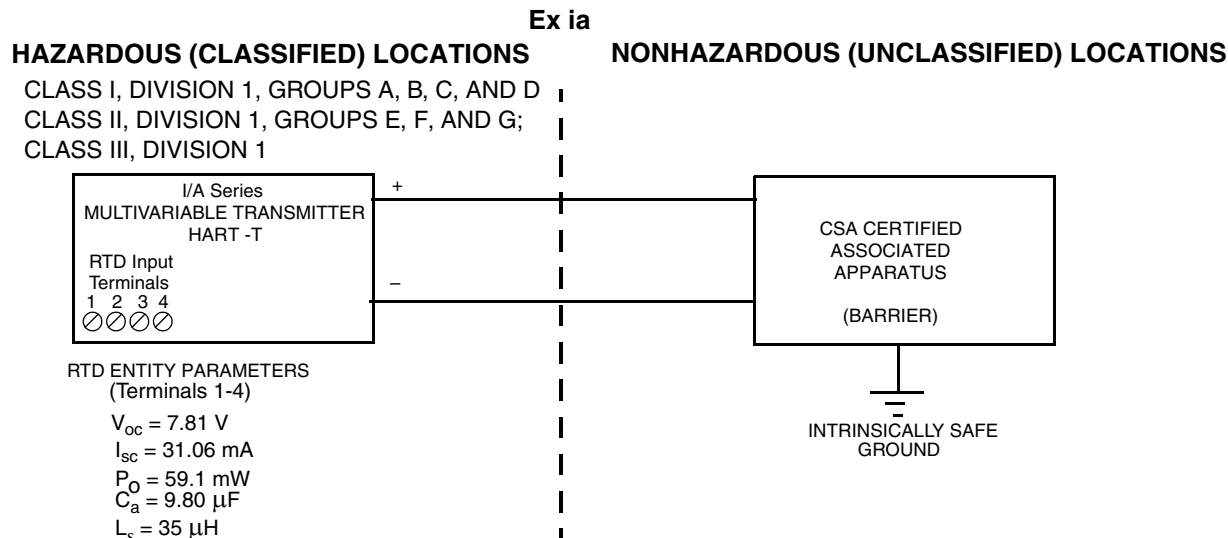

Figure 14. Divisions Loop Diagram for HART IMV Transmitters With CSA Certified Zener Barriers
1. Figure 14 and/or Table 5 must **not** be modified without prior CSA approval.